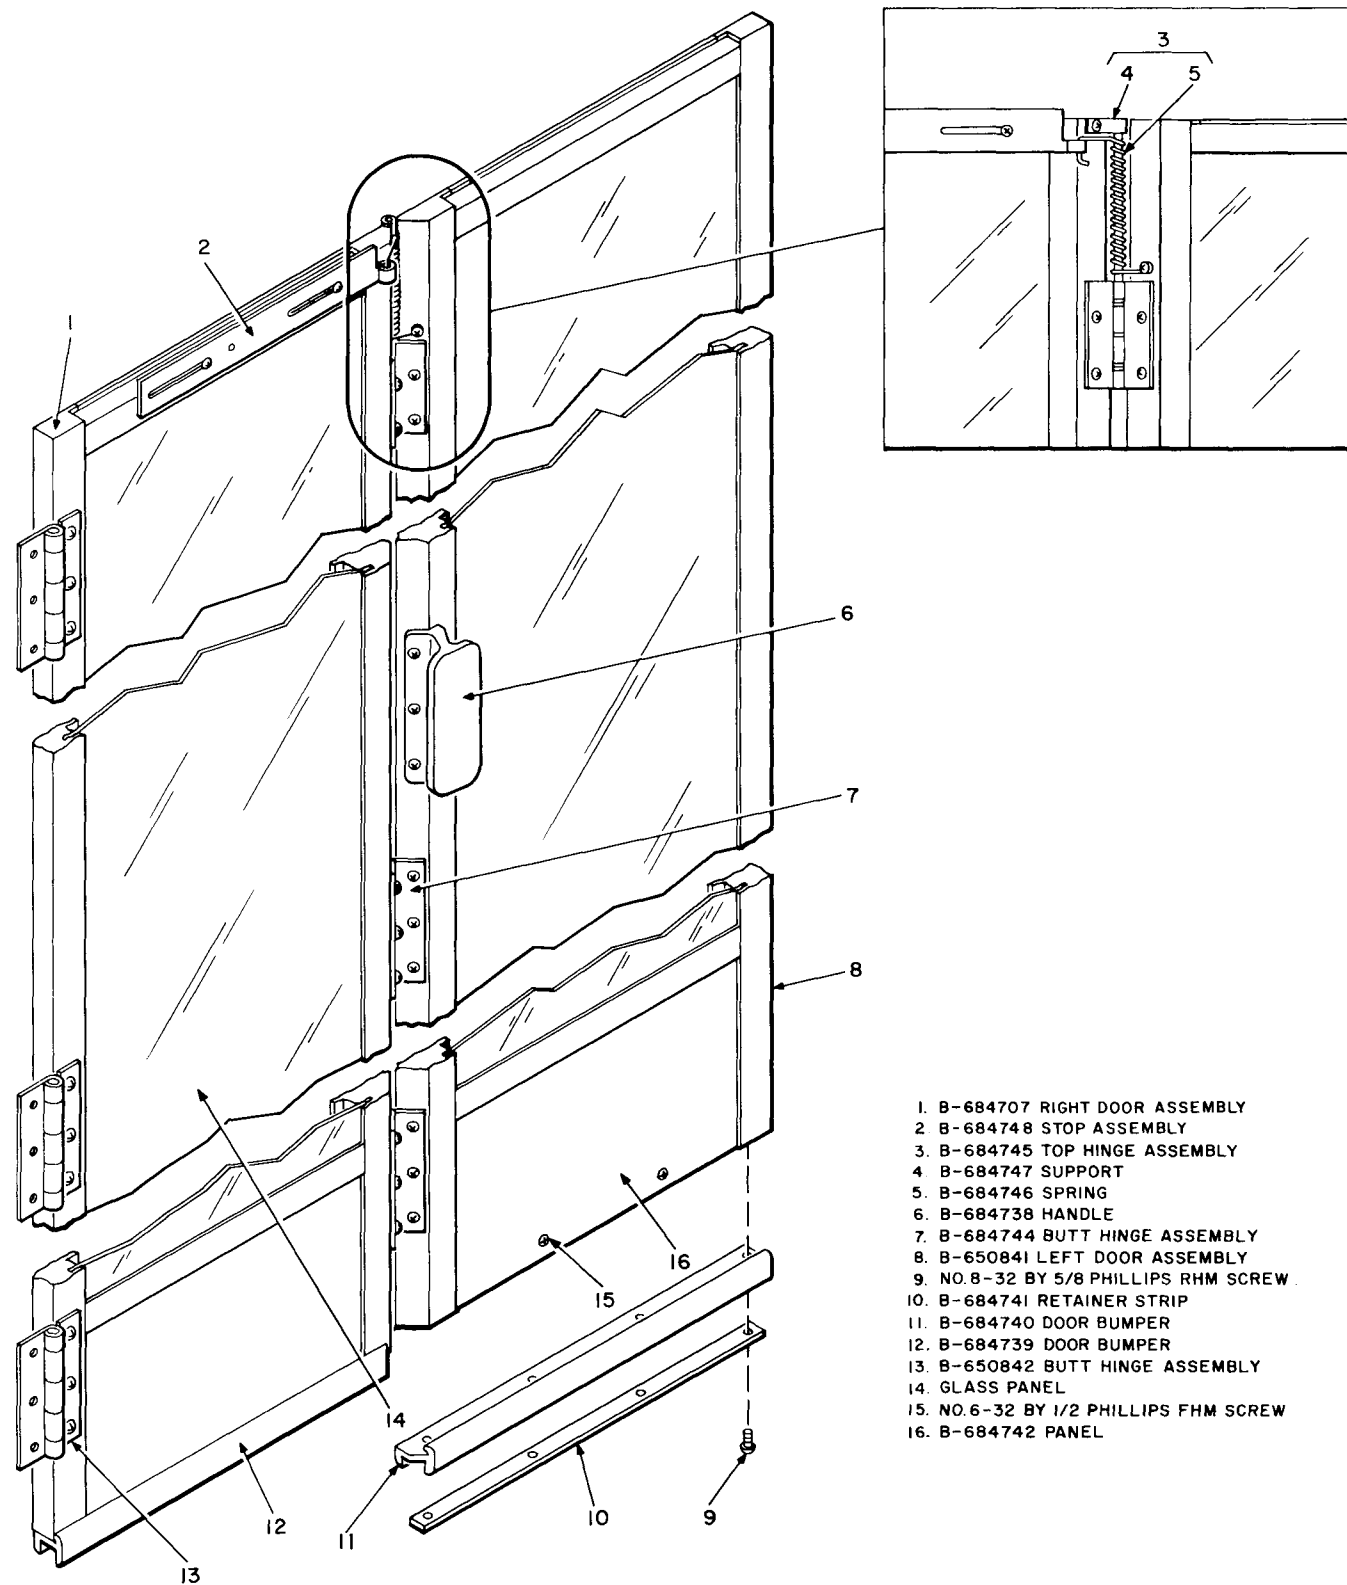

Fig. 3—B-684705 Door Assembly
15. DOOR REQUIREMENTS (See Fig. 3 for Replacement Parts)